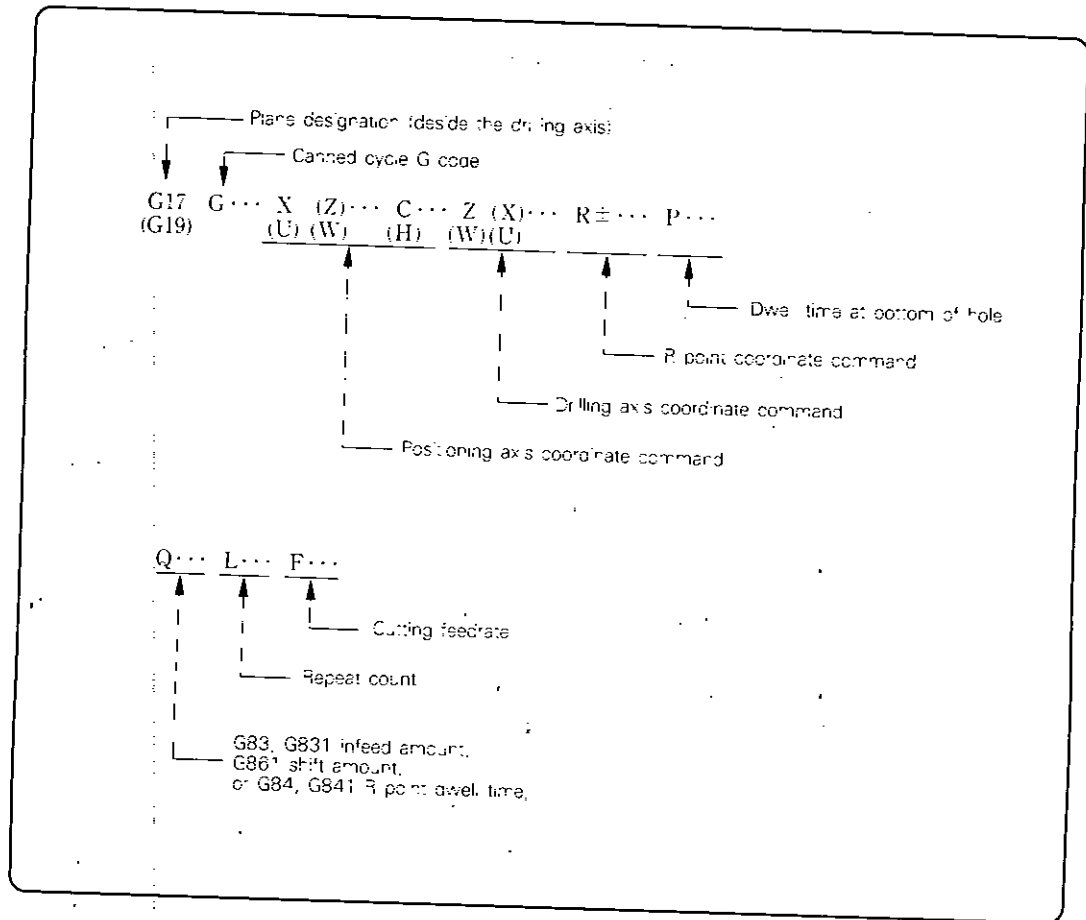

Fig. 2.13.60 Drilling Canned Cycle
The command of Fig. 2.13.60 executes the following ① to ④ as a single cycle.